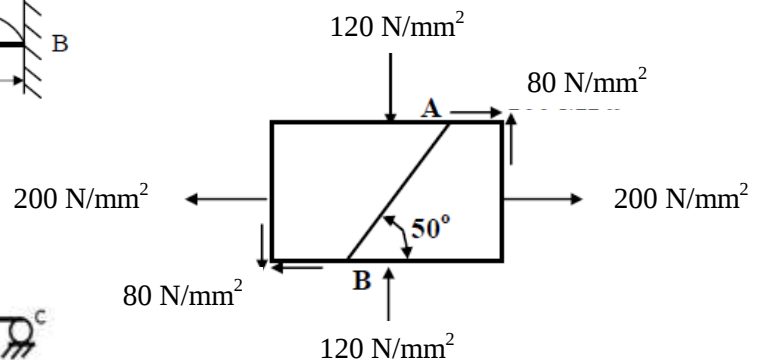

Figure 3
- (b)** For the element shown in the figure 3, find the normal stress, tangential stress and resultant stress on the plane AB. Also, find principal stresses and principal planes. Use any method. **10**